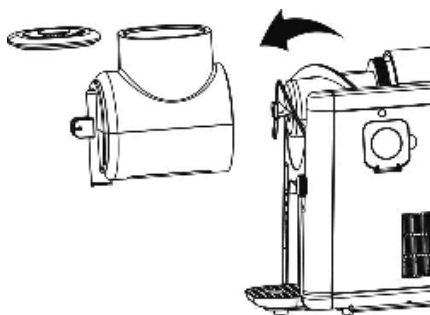

Fig. 7
6. Use the included tool to remove the plunger in the outlet and remove it for cleaning (Fig. 7).